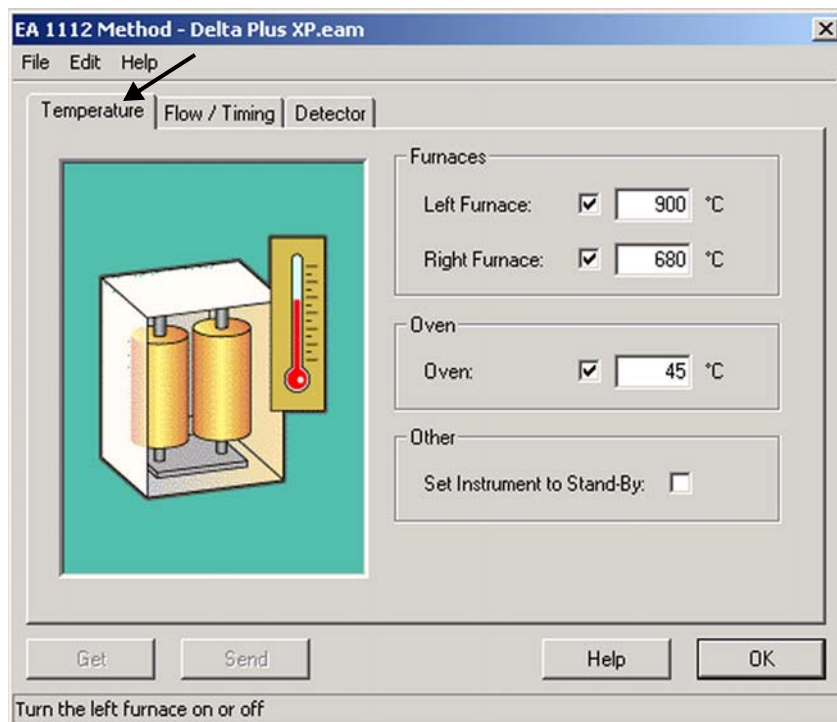

Figure 3-31. Settings for analysis - Temperature tab
2. Set the parameters as shown in Figure 3-31.